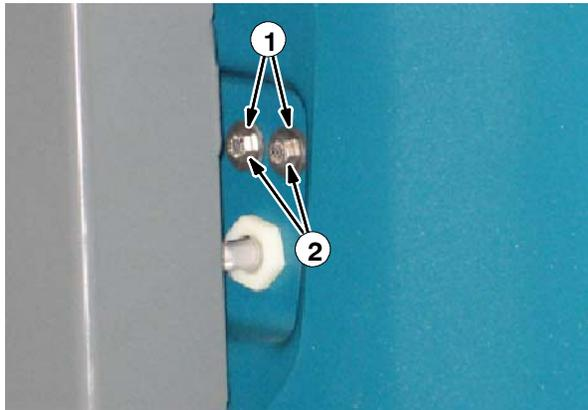
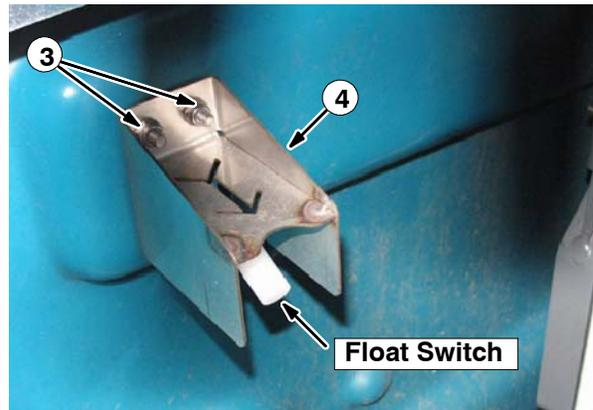

FIG. 1
FIG. 2
6. Use two hex screws (2), two sealing washers (1), and two hex nuts (3) to install the new float switch protector bracket (4) in the recovery tank. Note location of sealing washers (1) **outside** the recovery tank. Refer to Fig. 1 and Fig. 2.